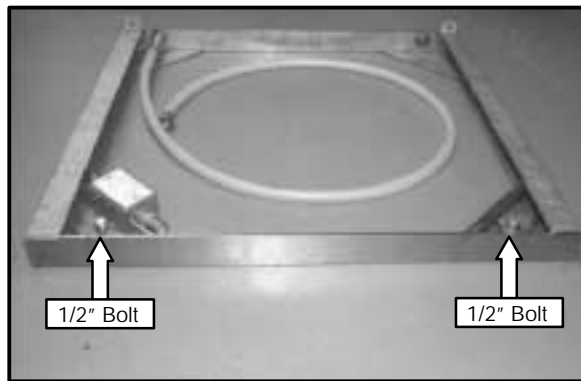

Figure 29
1. Remove the two 1/2" bolts from the front of the installation base. See Figure 29.
20. Slide the oven assembly back onto the installation base. The locking pins on the rear of the oven base section will fit into and lock the base to the upright tabs attached to the installation base. Install the two bolts (1/2 inch diameter) removed in STEP 1 (Figure 29), thru the oven base section and into the installation base. Insure that the drains from the upper and lower ovens and the orange hose and black hoses from the P2 stack tubes are located over the floor drain.